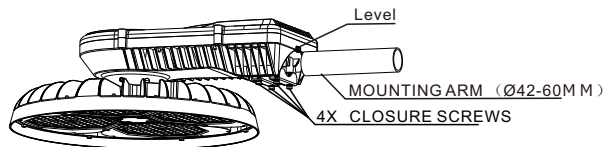

Figure 9
- ◆ Put the lamp into the round tube light arm as shown in Figure 9, refer to the level to install the lamp level, and then lock the four fixing screws;